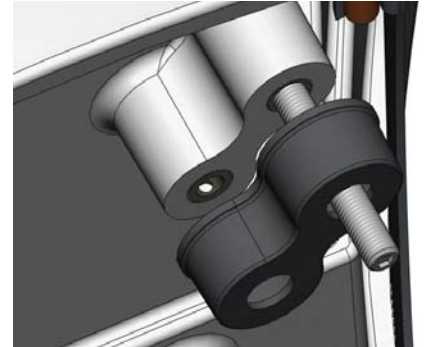

Figure 3
4. Install the seals onto the pedestal (Figure 3).